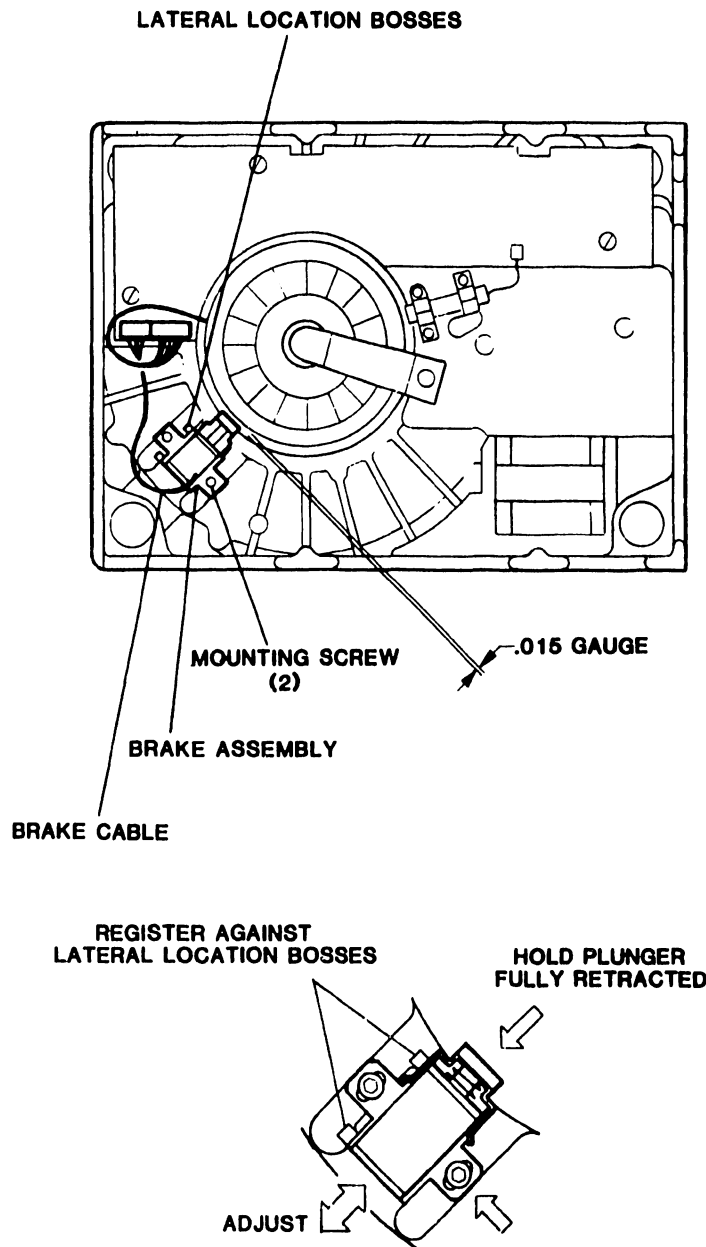

Figure 6-4. Brake Assembly Removal and Replacement
6.3.4 Brake Assembly Removal and Replacement (Figure 6-4)
With mounting screws loosened, grip brake assembly with thumb, fore and middle fingers as shown in Figure 6-4. Squeeze assembly together and slide forward and against lateral location bosses. At the same time place .010 gauge between spindle motor and brake. Tighten and torque brake assembly mounting screws to eight inch pounds. Following torquing of screws, check to ensure that the brake pad is spaced .010 from the braking surface when the plunger is fully retracted $.010 \pm .003$.